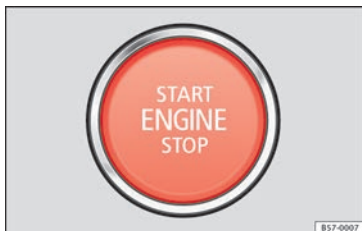

Fig. 164 In the lower part of the centre console: starter button.
3.	Briefly press the starter button » Fig. 164 without pressing the accelerator. For the engine to start there must be a valid key in the vehicle. After starting the engine, the light of the START ENGINE STOP button changes to a fixed light indicating that the engine has started.
5.	Briefly press the start-up button » Fig. 164. The (START ENGINE STOP) button blinks again. If the engine fails to switch off, perform an emergency disconnect » page 167.